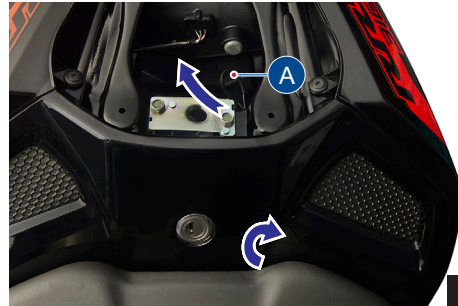

Fig. 33
- Pull the seat release cable (A) to release the seat lock (ref. Fig. 33).